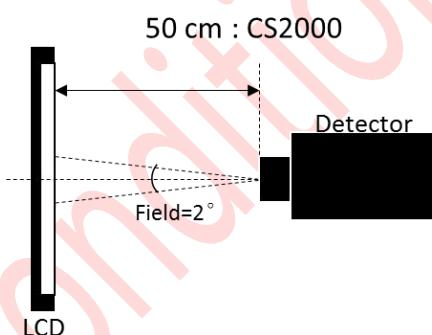

Fig.4.1 Measurement equipment.
- (1) Each chromaticity coordinates (x, y) are measured in CIE1931 color space when full-screen displaying (Red, Green, Blue, White) and light source is defined by HKC Backlight, measurements shall be made at the center of the panel, and setup of measurement is shown in Fig 4.1.
- (2) The color gamut is defined as the fraction in percent of the area of the triangle bounded by R, G, B coordinates and the area is defined by NTSC 1931 color standard in the CIE color space. Chromaticity coordinates are measured by CS2000 and the standard setup of measurement is shown in Fig 4.1.
- (3) Definition of Transmittance (T%):
(6) Definition of Viewing angle:
As Note (4) the static contrast ratio definition, the viewing angles are defined at the angle that the contrast ratio is larger than 10 at four directions relative to the perpendicular direction of the HKC's module (two vertical angles: up  $\theta_y^+$  and down  $\theta_y^-$ ; and two horizontal angles: right  $\theta_x^+$  and left  $\theta_x^-$ ). The standard setup of measurement is shown in Fig 4.1 & 4.4